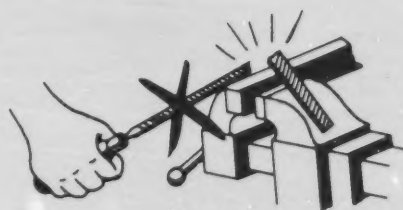

Figure 1-84. Finishing Files
f) The number of teeth to the centimetre or spacing varies slightly with the make of file. The spacing also changes with the length of the file, increasing proportionately as the length is increased. A file may have rough, coarse, bastard (medium coarse), second-cut, smooth-cut, or dead-smooth grade of teeth. For fast removal of metal on rough work, the rough, coarse, and bastard files are used. For finishing, the second-cut file (small teeth), the smooth-cut file (very small teeth), and the dead-smooth file (very fine teeth) are used. (See Figure 1-84.)